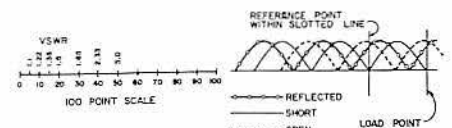

Fig. 5. Left, VSWR scale. Fig. 6. Right, Impedance measurements.
An even simpler method is to set the meter to full scale (100) at the highest reading, and reading the VSWR directly from Fig. 5.
Or set  $E_1$  to 100 by adjustment of R, then  $E_2$  would read 25 on the meter, a VSWR of 1.66 by Fig. 5.